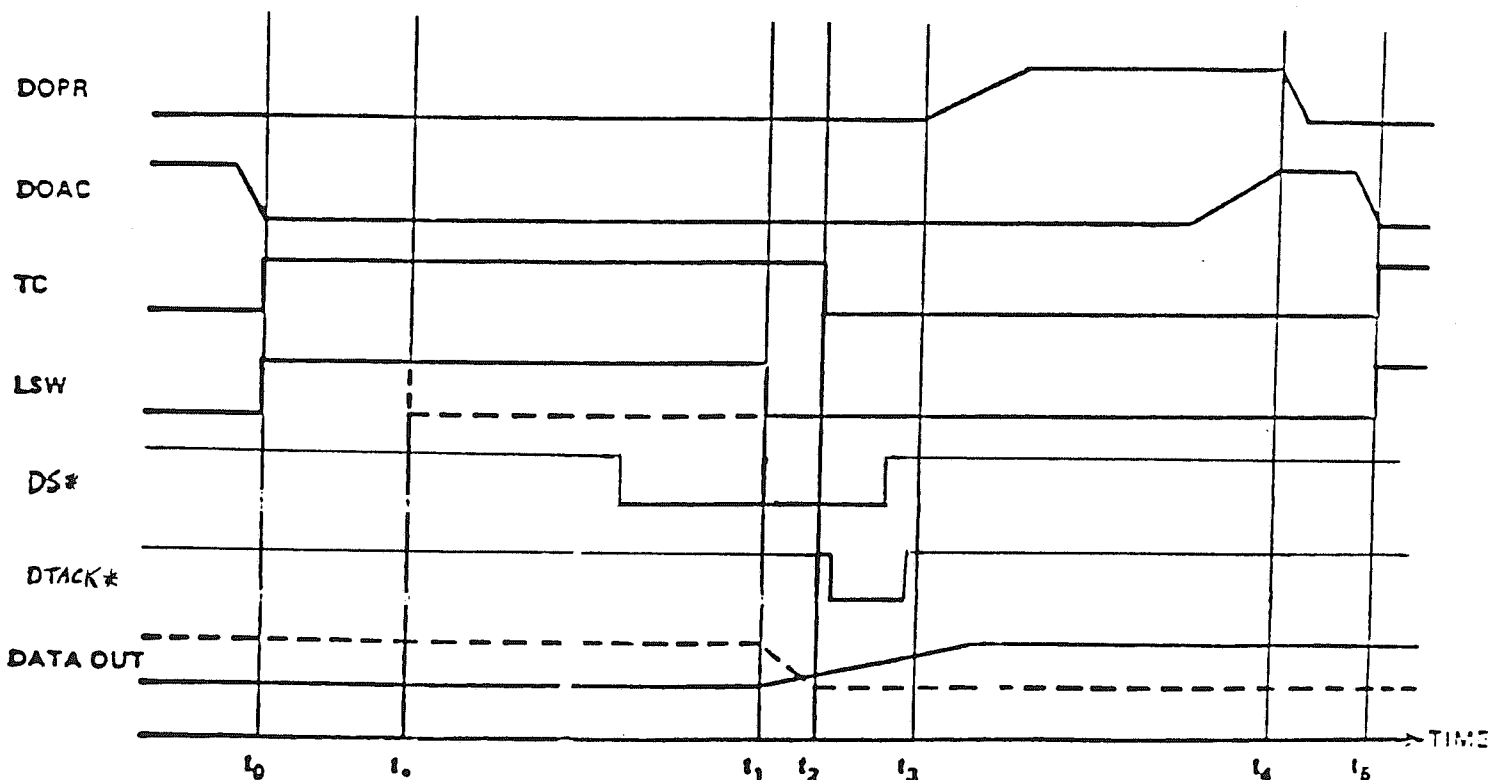

FIGURE 4 - V385 OUTPUT TIMING
For the following timing description refer to Figure 4 (see below). At time t_0 the V385 module receives DOAC in a low state, indicating that the preceding write cycle has been completed. The Write interrupt source (INT_SRC_W) and Transfer Complete (TC) signals become a Logic "1", indicating that the next data word can be transferred.